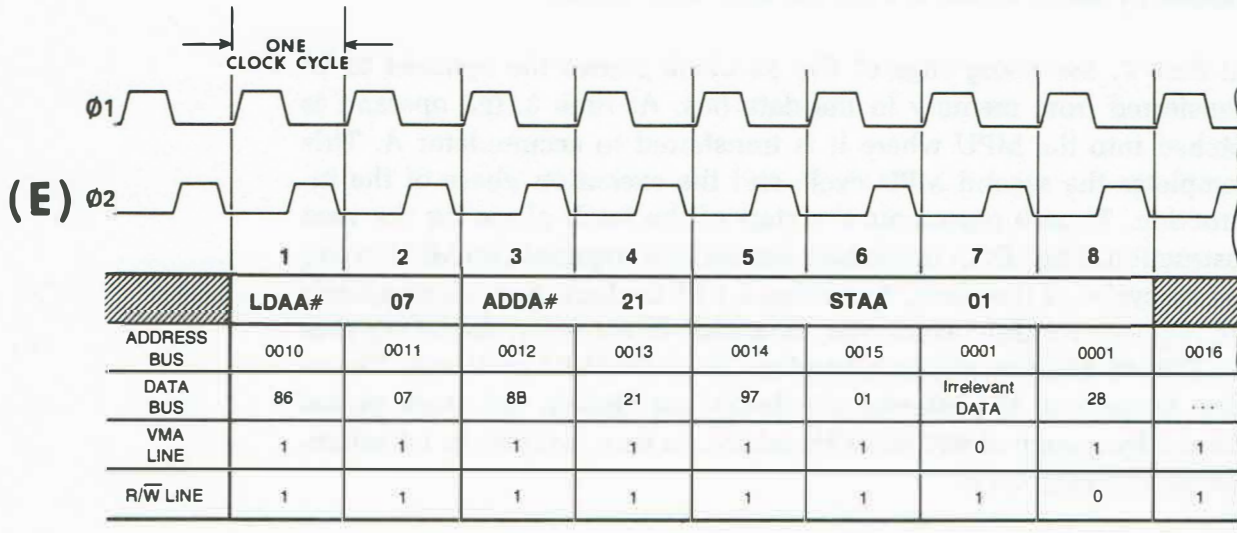

Figure 10-10
Figure 10-10 illustrates the timing relationships. At the top the  $\phi 1$  and  $\phi 2$  (E) clock signals are shown. The information that appears on the buses and control lines for each clock period is shown at the bottom. This program segment requires eight clock or MPU cycles which are numbered one through eight. Next, you will see what happens during each of these cycles.